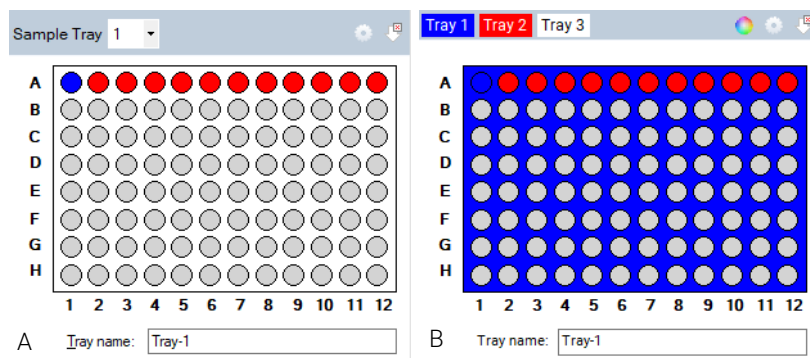

Figure 34 Classic drop-down tray selection (left), and colored tab tray selection (right).
Select the sample tray to be used from either the **Sample Tray** drop-down list or the colored tab tray selection, depending which configuration is set (**Figure 34**).
The configuration can be set by selecting the  icon located in the upper right corner of the window shown in **Figure 34**.
- 2 Choose between the sample tray drop-down list or the colored tab tray selection as shown in **Figure 34**.
- 4 To select a row from the 96-well plate depicted in the sample/sample tray window, left-click once in that row (Figure 34). To select a new row left-click on another row.
- 5 To clear a row selection, select . (Figure 34)
The **Tray name** dialog box allows you to input a name for the tray being run (Figure 34). Alternatively, select this dialog box and use a barcode scanner to import sample names for the plate being run (for more information, refer to Chapter 11, “Fragment Analyzer – Sample Name Entry”).